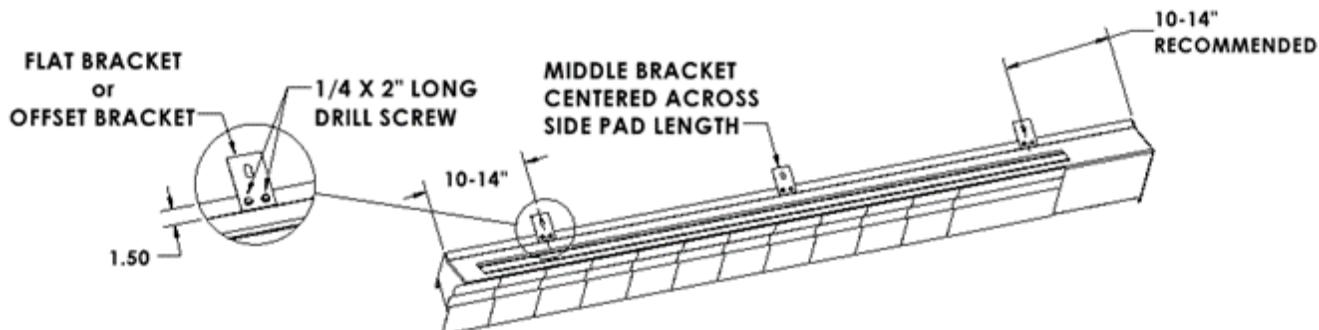

FIGURE 6
5. **ATTACH BRACKETS (L or M) TO BOTH SIDE PADS (C & D):** Attach (3) Brackets (L or M) to each Side Pad. See the Parts List page to determine which bracket type is used to connect each Side Pad to the side of the door frame opening. Each bracket will be attached with (2) 1/4"x2" Long Drill Screws (I). Mount the edge of the bracket 1 1/2" off the edge of the Side Pad as shown (Figure 6).